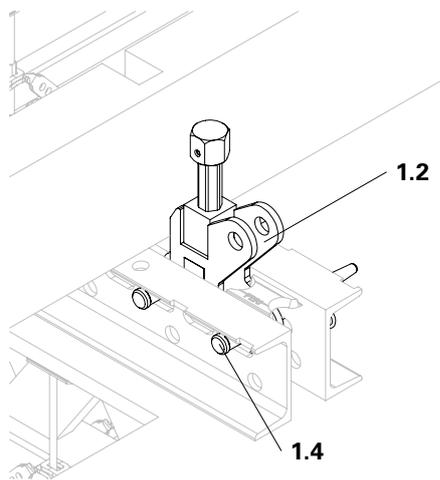

Fig. A3.03b
- Mount Waler Jack with Connector VARIOKIT (1.2) onto the Steel Waler SRU U120 (1.1) using 2x Fitting Pins Ø 21 mm (1.4), and secure with cotter pins 4/1, galv. (Fig. A3.03b)